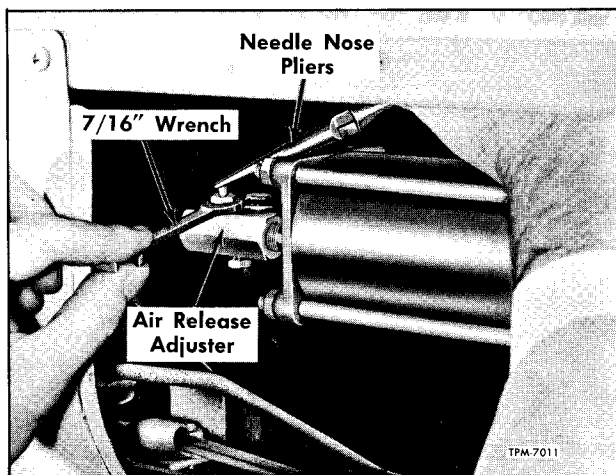

Figure 12—Adjusting Rear Push-Type Door Closing Speed
Adjust metering to cushion door on closing by loosening lock nut (2) then turning speed adjusting screw (1) as shown in figure 12. Turning screw clockwise increases cushion effect or turning screw counterclockwise lessens cushion effect. Adjust to prevent door slamming. Tighten adjustment screw lock nut firmly after making adjustment.